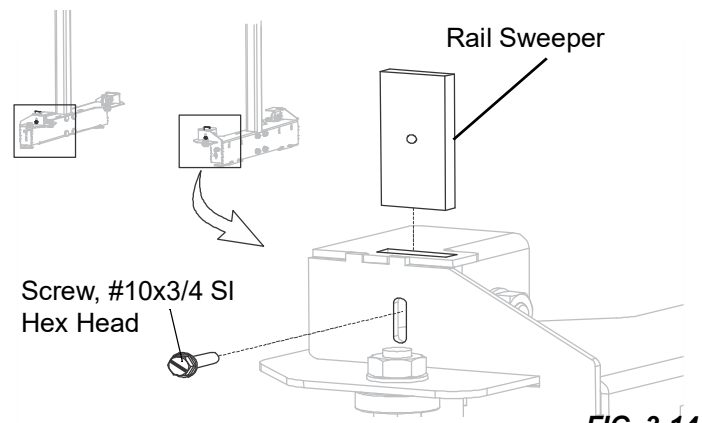

FIG. 3-14
- 1. Install the sawdust rail sweepers on the **front sides** of **both** carriages. Make sure that the sweepers contact the rails. See FIG. 3-14.